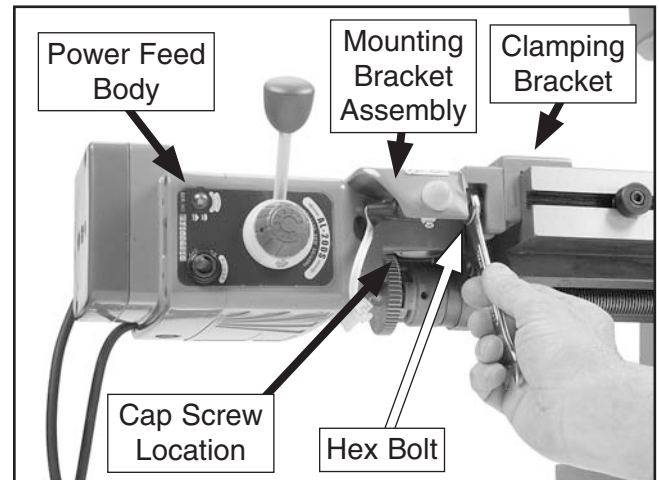

Figure 14. Attaching power feed body.
4. Tighten the hex bolts when the gears are in mesh (**Figure 14**).